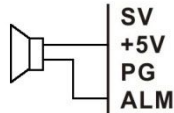

Figure 3 : ALM alarm signal buzzer connection
1)ALM alarm signal output buzzer connection as shown in Figure 3: